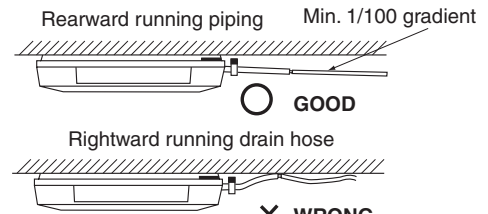

Fig. 27
- Keep the drain pipe short and sloping downwards at a gradient of at least 1/100 to prevent air pockets from forming. **(Refer to Fig. 27)**